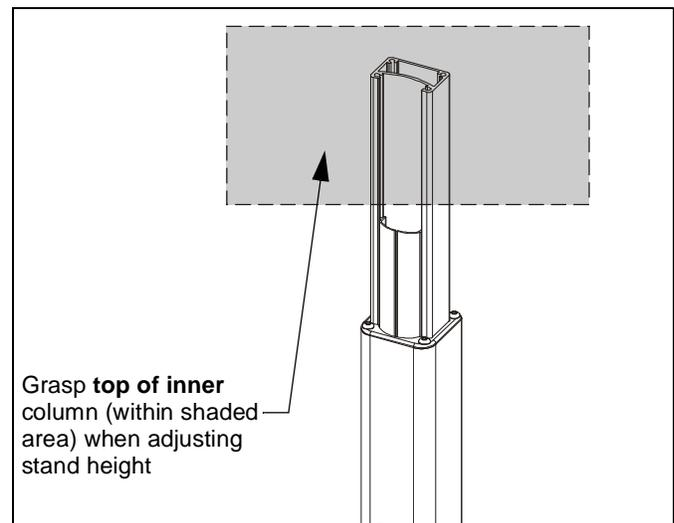

Figure 6
1. Firmly grasp **top** of inner column. (See Figure 6)
IMPORTANT ! : Firmly grasp at the **top** of the inner column when adjusting stand height. (See Figure 6)